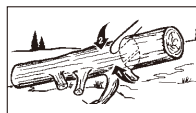

Fig. 13B
2. Log supported on 1 end: First, cut from bottom (underbuck) 1/3 diameter of log to avoid splintering. Second, cut from above (overbuck) to meet first cut and avoid pinching (Fig.13B).